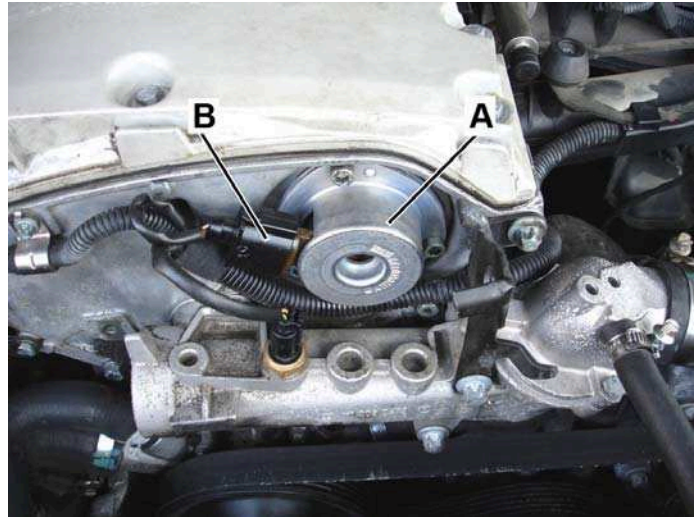

Figure 5
- Remove cover over camshaft solenoid (A, Figure 5)
- Disconnect engine harness connector (B, Figure 5) from camshaft solenoid (A).